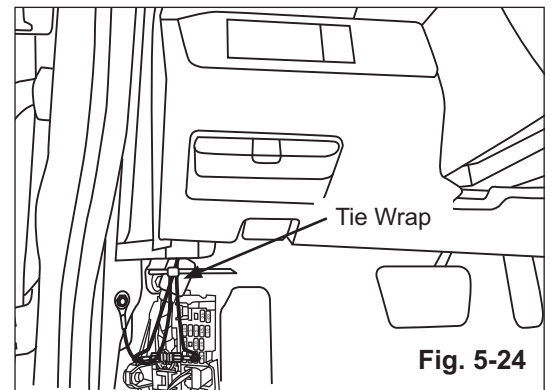

Fig. 5-24
- b) Secure bundled harness wires to factory wire bundle with one (1) tie wrap. (Fig. 5-24)